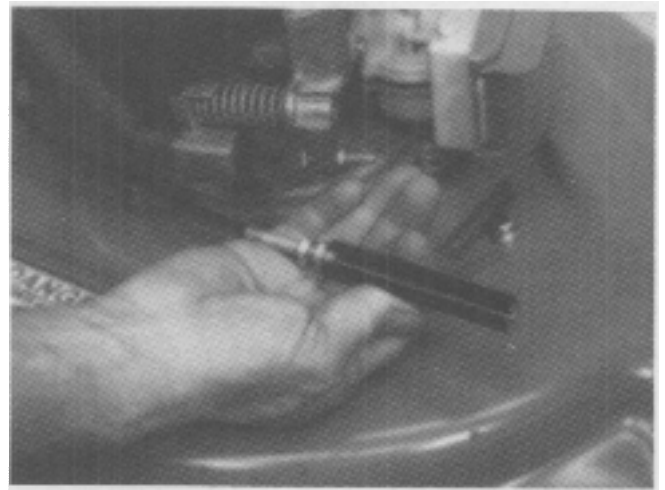

Figure 9
To adjust the brake cable, loosen the jam nut and back it off. Place the brake cable adjusting gauge, part number 611703 over the end of the cable. Assemble the retainer clip (see Fig. 9) on the cable against the gauge.
**NOTE:** If proper switch adjustment cannot be made, check brake cable adjustment (See Fig. 9) as this will affect correct switch operation.